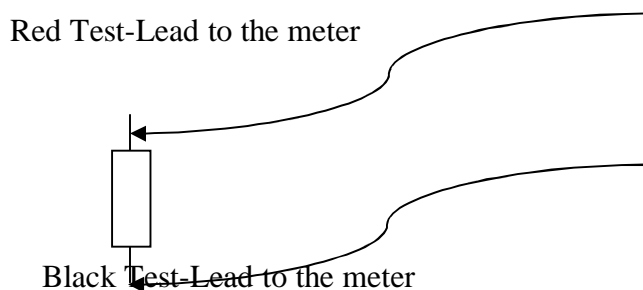

Figure 2.9: Measuring the Resistance of a Circuit Component
6. Remove the component whose resistance is to be measured (from the circuit) and touch the two metallic probes of the test-leads to both ends of the component as shown in Figure 2.9;
2. Connect the multimeter probes to either end of the wire as shown in Figure 2.9 (a);